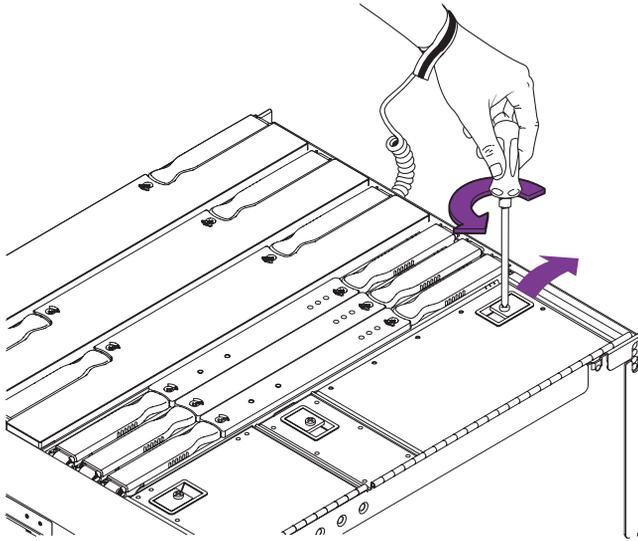

FIGURE 8-7 Opening the I/O Bay Cover
7. Open the I/O bay cover (FIGURE 8-7).